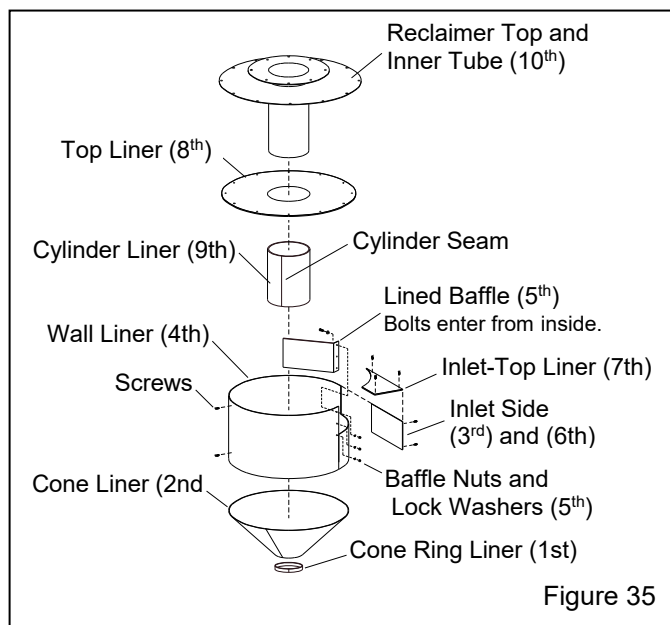

Figure 35
### **7.11 Replacing Rubber Reclaimer Liners – Figure 35**
**Installation Notes:** The numbers in parentheses (-) shown in Figure 35 and in the following applicable paragraphs show the recommended order of installation. When installing the liners, make sure that seams are aligned. The final assembly must be smooth and free of protrusions, edges, and gaps. Any edges will disrupt the air flow, causing wear and affecting the reclaimer's media cleaning efficiency.